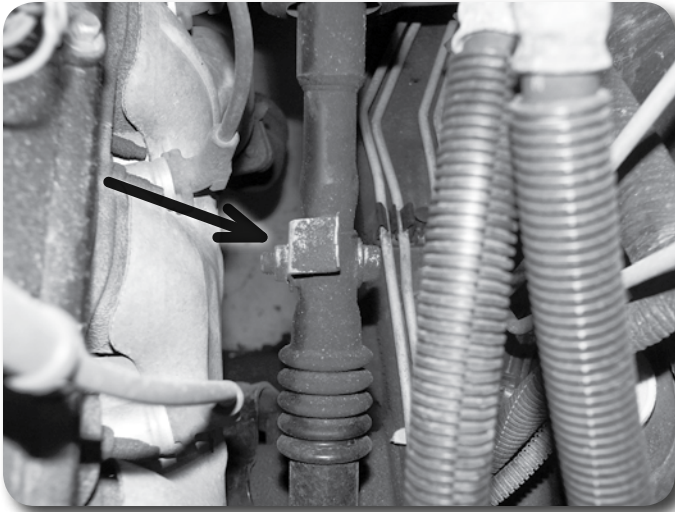

Figure 7
10. Lock the steering wheel. Locate the bolt that connects the upper steering column to the lower steering shaft **Figure 7**. Make a mark on each half for alignment during installation. Remove the bolt and separate the shafts by sliding the steering column up off the lower shaft. Save mounting hardware.